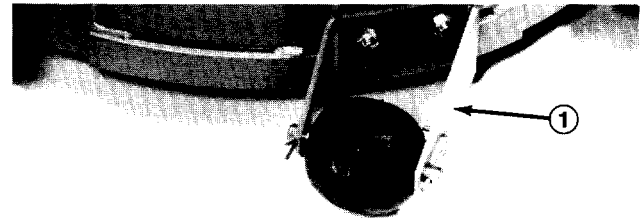

Figure 15
Note: If cutting unit is to be used in 1 in. (25 mm) or 1-1/2 in. (38 mm) height-of-cut setting, rear cutting unit rollers must be positioned in the appropriate bracket holes (Fig. 15 & 16).
1. Remove nuts securing rear rollers to outside of cutting unit (Fig. 15).